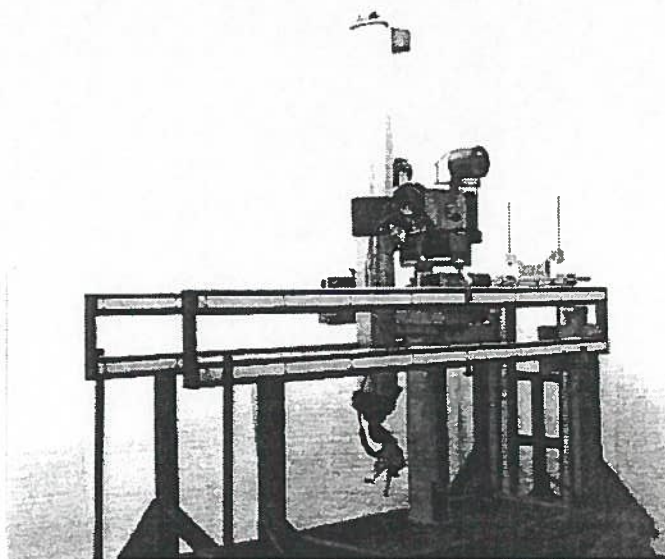

FIG. 32
4. Position the master arm on the Model L, L-HD handling fixture on the master jack of the transport cart and secure the master arm to the handling fixture (Fig. 32). Lock the longitudinal and lateral locks on the master jack.